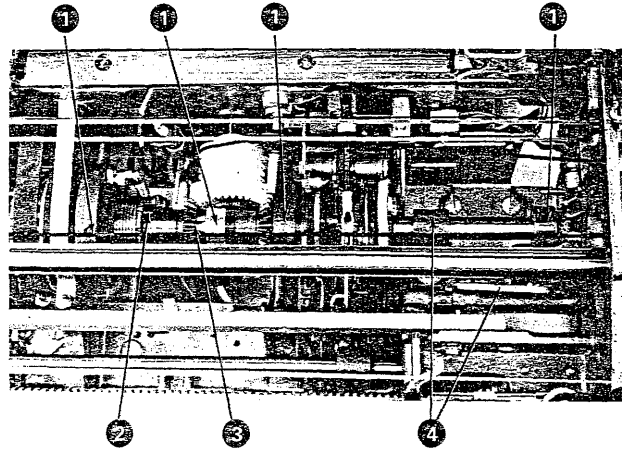

Figure 4-50. Operational-Shaft Removal
3. Remove the clip from the carrier-return-pinion spring (No. 2, Figure 4-50).
5. Move the pinion gear to the left and remove the retainer clip at the right side of the pinion (No. 3, Figure 4-50).
6. Maintain the operational-shaft support to hold the shaft firmly without binding (No. 4, Figure 4-50).